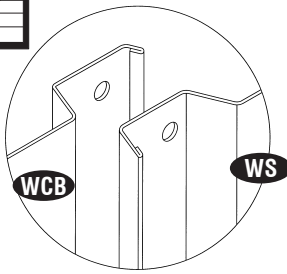

Fig.1
**Note** Make sure the overlapping of the panels. See fig. 1